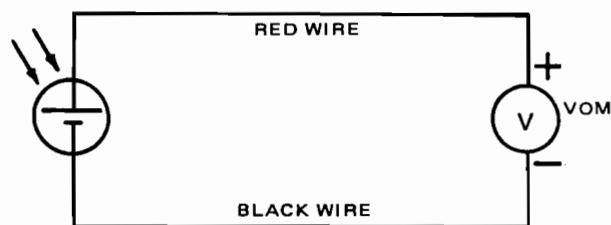

Fig. 3-5-1
1. Connect solar cell test circuit of Fig. 3-5-1 to low voltage range of a dc voltmeter.